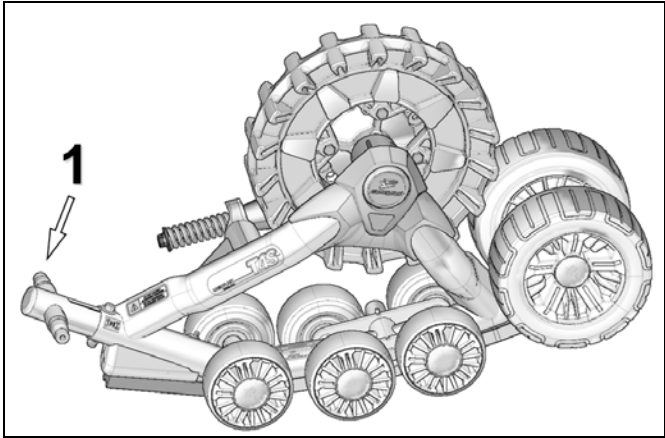

Figure 33.
- Remove the two 241 mm tires (1) on track tensioner. See Figure 33.